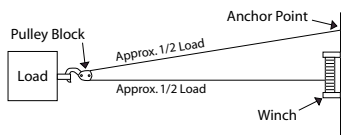

Figure 2
2. FOR LARGER LOADS, USE PULLEY BLOCK AND HOOK ASSEMBLY TO DOUBLE LINE WIRE ROPE (See Figure 2). This reduces load on the winch and strain on the wire rope by approximately 50%. DO NOT hook back to winch. Always secure hook back to a point that is strong enough to carry the load. Use only factory approved pulley block and hook assembly.